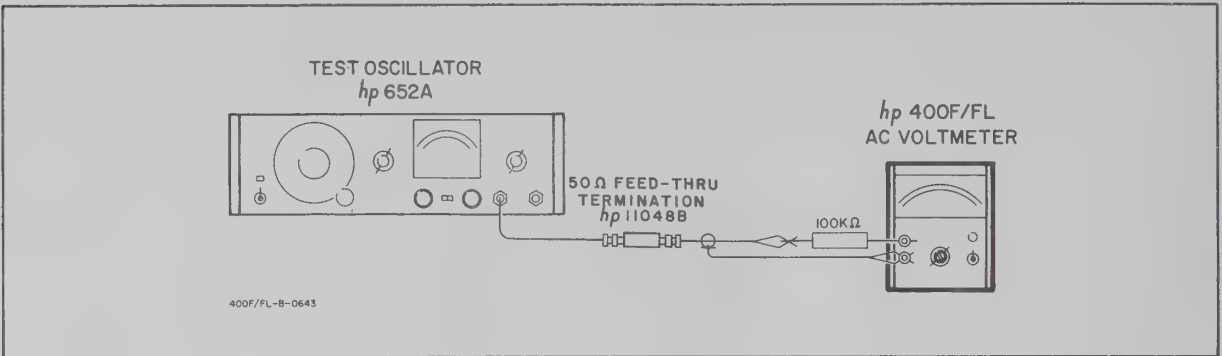

Figure 5-3. Input Impedance Check Setup
- d. Connect a 100 k Ω resistor between test oscillator and 400F/FL as shown in Figure 5-3.
- a. Connect test oscillator and a 100 k Ω resistor to 400F/FL as shown in Figure 5-3. Connect the resistor lead directly to the GR connector.